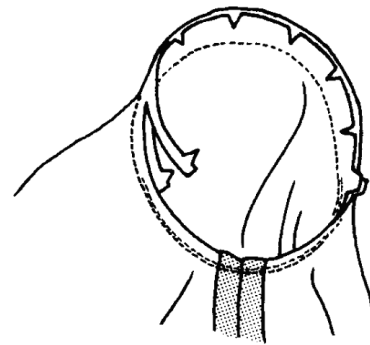

Figure 14
3. Notch the sleeve seam allowance segment along the sleeve cap where necessary to remove excess fullness (Figure 14).